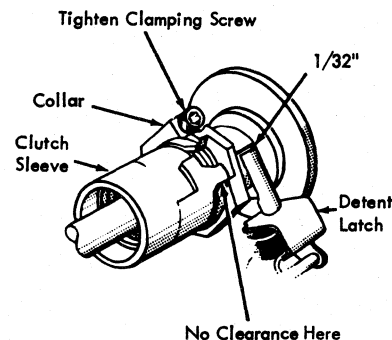

Figure 38. Clutch Adjustment
1. Shift clutch collar counterclockwise until upper ear of clutch sleeve rests against right edge of notch in clutch collar (Figure 38).